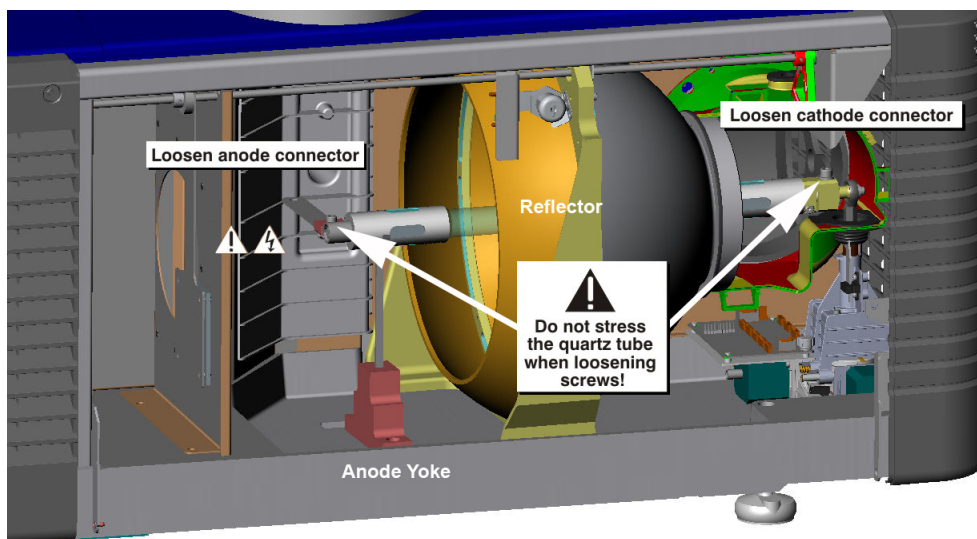

Figure 4-1 Remove Old Lamp
- b. Loosen set screws from negative/cathode and positive/anode lamp connectors. Make sure to apply minimal torque and DO NOT STRESS the quartz tube. (Figure 4-1).